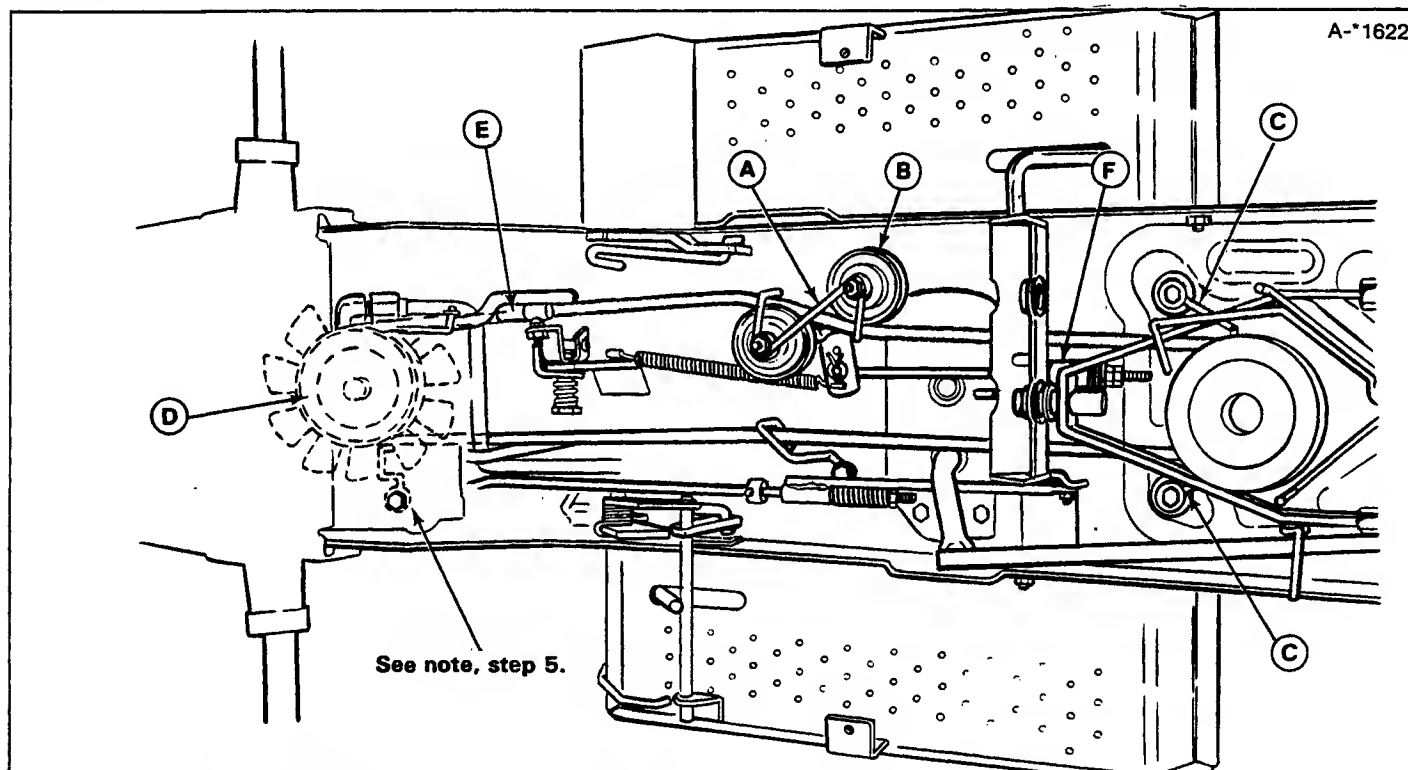

Figure 23. Belt Replacement
3. Remove belt guide (A, figure 23) from idler pulleys (B). Belt will drop from pulley.
4. Loosen, but do not remove, belt guides (C) from engine pulley. Remove belt from upper engine pulley.
6. Remove belt from transaxle pulley (D) and walk belt through fan.
7. To clear belt through speed control linkage (E):
8. Release parking brake to relieve clutch rod tension. Remove nut securing clutch rod guide (F) to clutch lever arm. Remove rod guide from lever arm to allow belt to drop.